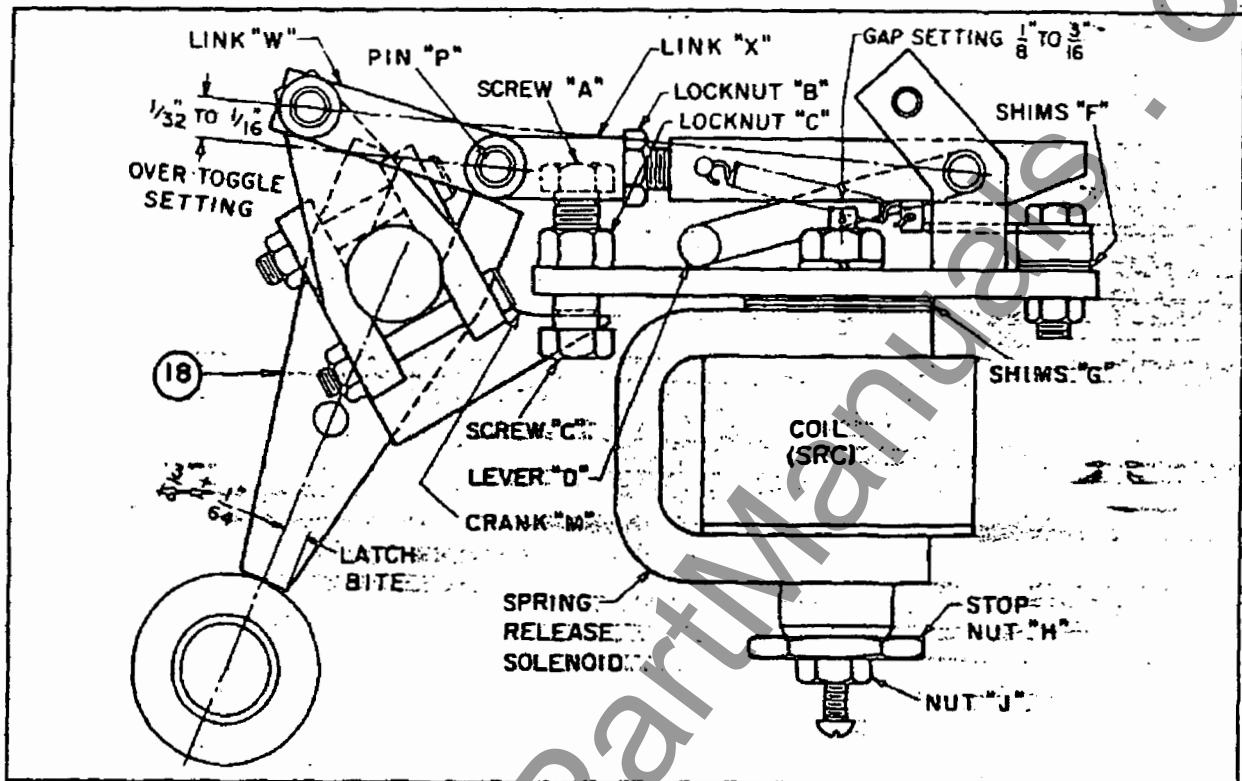

Figure 20. - Spring Release Latch.
**Spring Release Latch and Over Toggle Linkage (Figure 20)** — To change bite of spring release latch, disconnect links (W and X) by removing pin (P) and turning screw (A) against crank (M). Check visually to see that bite is 3/16-in., or point of contact at about the center of the latch (18). Lock screw (A) with locknut (C). Adjust link (X), if necessary, so that pin (P) can be easily inserted. To adjust link (X), loosen locknut (B) and rotate the link end to increase or decrease its length.
Add or remove shims (G) to provide 1/16 to 1/8-inch overtravel after latch releases and to raise pin (N) to height of link (L) ears with mechanism as shown in Fig. 11a. Adjust gap setting (1/8 to 3/16-inch), Fig. 20, with stop nut (H) and lock securely with nut (J).